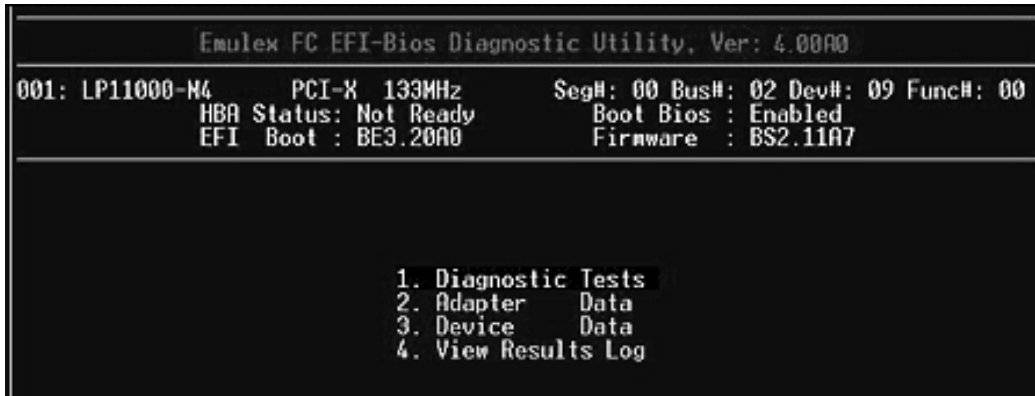
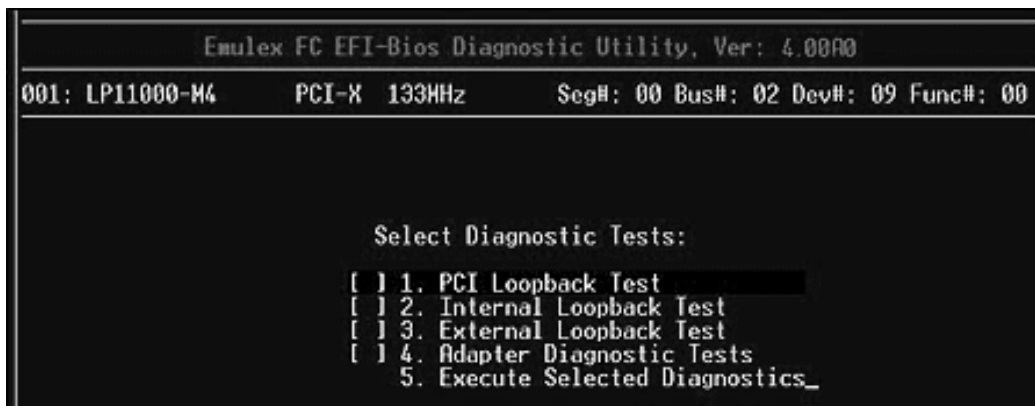

Figure 94: Diagnostic Main menu
Figure 95: Diagnostic Tests menu
1. Access the Diagnostic Main menu (Figure 94) and select **<1>**. Diagnostic Tests. Press **<Enter>**. The Diagnostic Tests menu is displayed:
1. On the Diagnostic Main menu (Figure 94), select **<1>**. Diagnostic Tests. Press **<Enter>**. The Diagnostic Tests menu is displayed (Figure 95).
1. Access the Diagnostic Main menu (Figure 94) and select <1>. Diagnostic Tests. Press <Enter>. The Diagnostic Tests menu is displayed (Figure 95).
The Adapter Diagnostic Tests include adapter restart, display of some configuration parameters, results of linkup and target login. These actions cannot be selected individually. If any one of these tests fail, Failed is displayed on the Diagnostic Test menu (Figure 95).
1. Access the Diagnostic Main menu (Figure 94) and select <2>. Adapter Data. Press <Enter>. The Adapter Data menu is displayed: